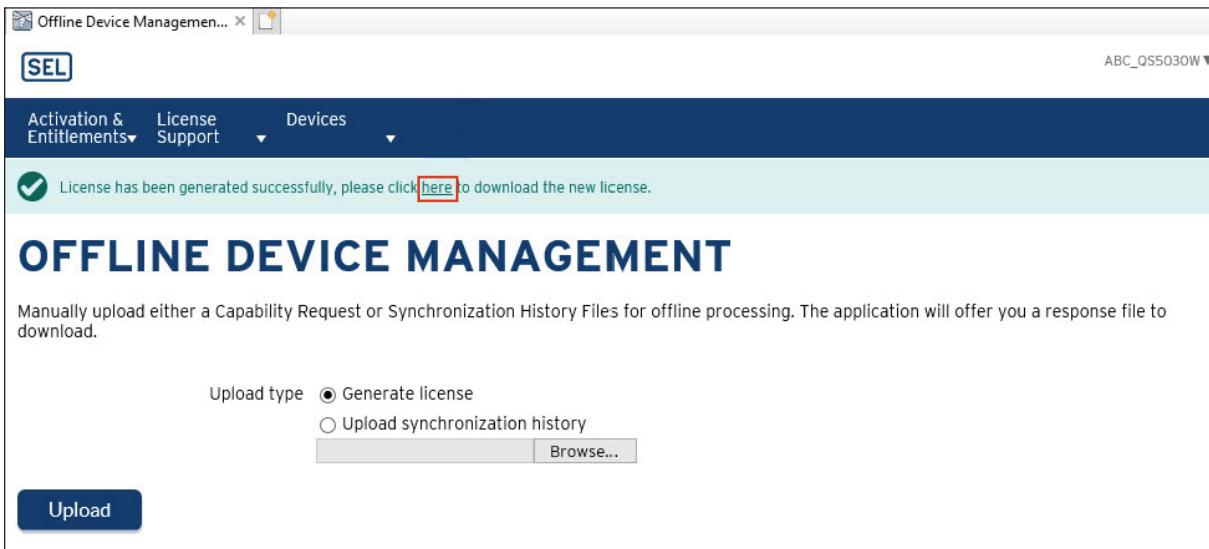

Figure D.11 Link to Download Capability Response File
Step 10. Click the link highlighted in *Figure D.11* to download the Capability Response file.